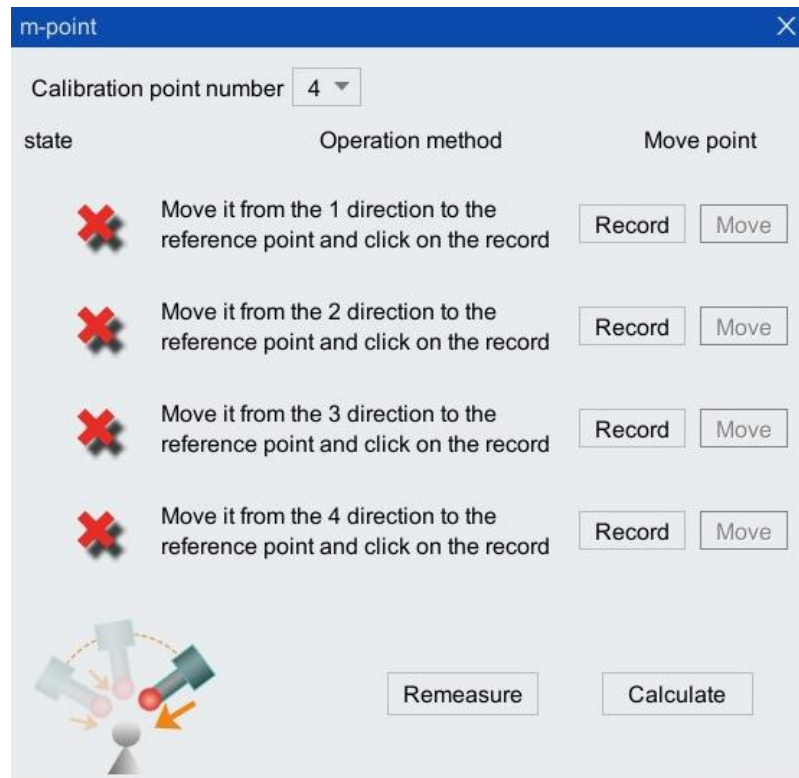

Figure 4-3 "Four-point method" calibration interface
Step3. Click <m-piont >, and the configuration interface will pop up as shown in Figure 4-3.